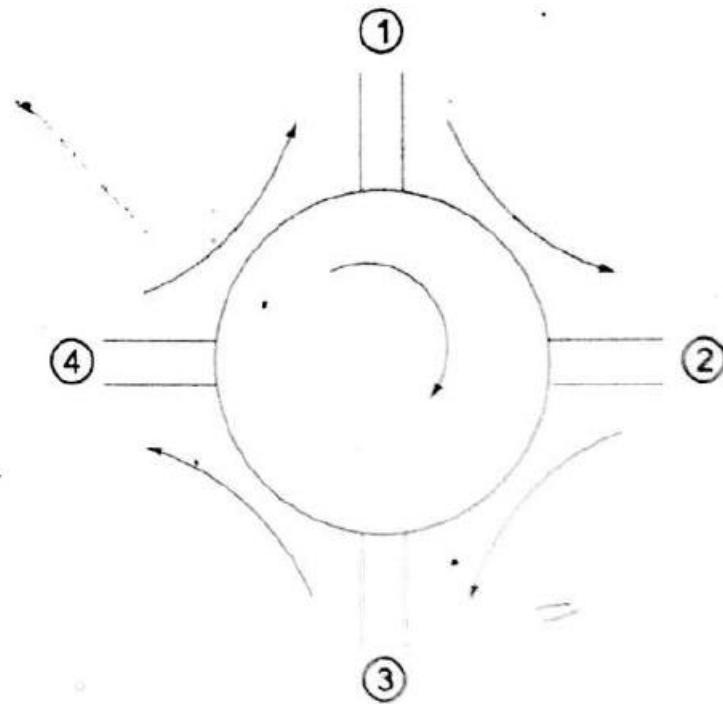

Fig. 6.36
A circulator is a four port microwave device which has a peculiar property that each terminal is connected only to the next clockwise terminal. i.e., port ① is connected to port ② only and not to port ③ and ④ and port ② is connected only to port ③ etc. This is shown in Fig. 6.36. Although there is no restriction on the number of ports, four ports are most commonly used. They are useful in parametric amplifiers, tunnel diode, amplifiers and duplexer in radars.